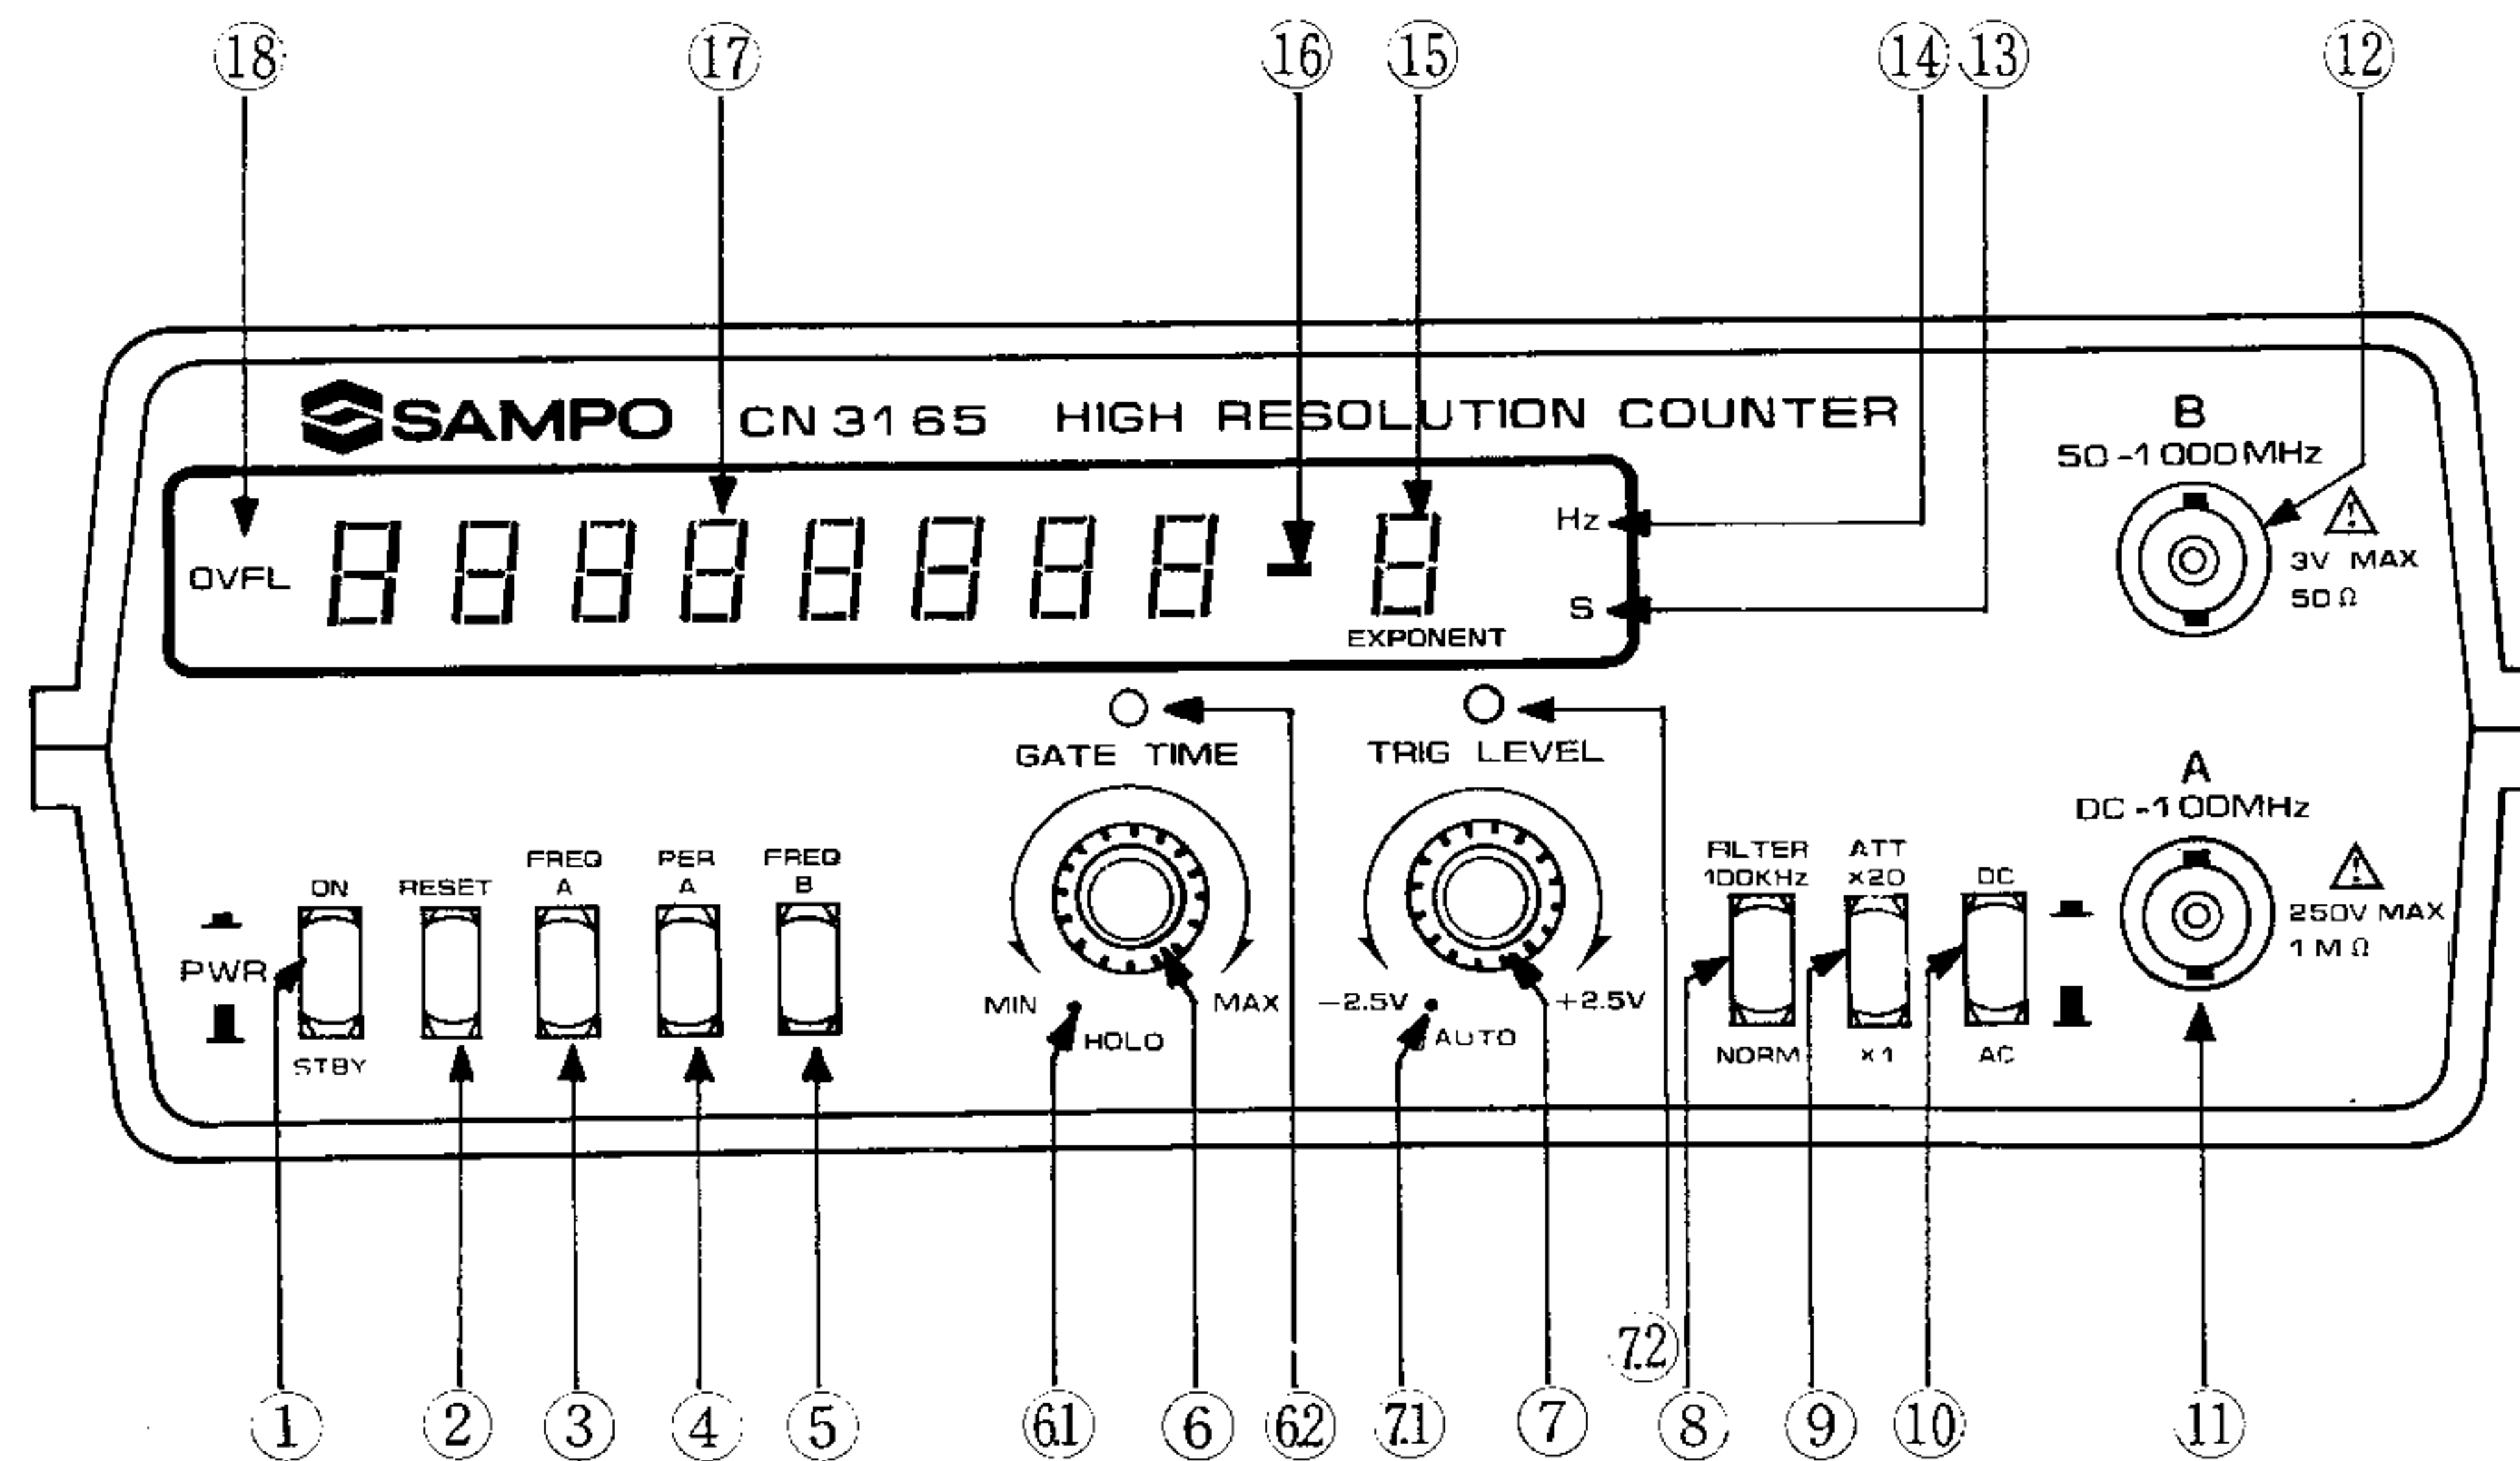

FIG. 3.1 FRONT PANEL
4.1 Power ON self-check: (Refer to fig. 3.1 front panel)